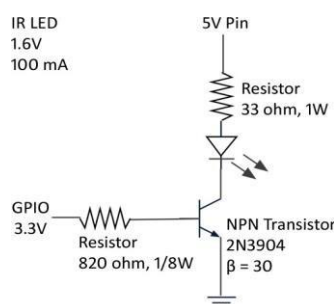
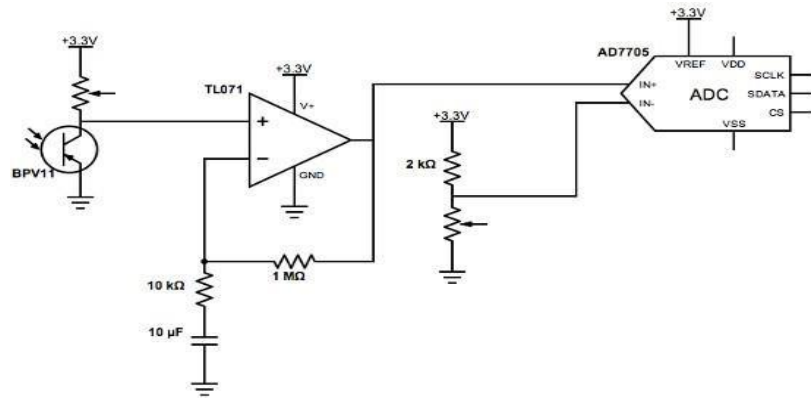

Figure 2: Suggested transmitter circuit (adapted from <https://www.raspberrypi.org/forums/viewtopic.php?f=37&t=117580>)
Figure 3: Suggested receiver circuit (based on <http://web.eng.gla.ac.uk/RPI/2013/4/>)
- **Transmitter peripheral:** this is essentially an LED that would either be powered directly from a GPIO port or via a transistor amplifier to increase the current flowing through the LED, so that the emitted light can travel a further distance (see Figure 2).
- **Receiver peripheral:** this peripheral may use a phototransistor (or alternate receiver) together with filtering and amplification circuitry. The speaker can connect to a small amplifier circuit, or audio facilities on-board the RPI can be used. See Figures 3 and 4.
The suggested circuits for the transmitter, receiver and the sound amplifier are shown in Figure 2, Figure 3 and Figure 4 respectively.